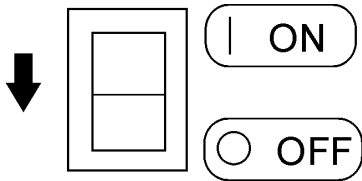
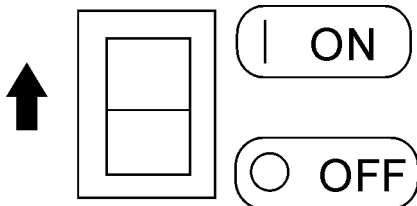

Figure 14. Idle Control Switch (Off)
Figure 15. Idle Control Switch (On)
- Place the *idle control switch*** (Figure 14) in the "OFF" (down) position. This will allow the engine speed to run at speed about 3600 RPM's
NOTE Placing the *idle control switch* in the **OFF** position (Figure 14) allows the engine to operate at a maximum speed of about 3600 RPM's. When the idle control switch is placed in the up position (**ON**) (Figure 15), the generators will run at idle speed (2200 RPM's) until a load is applied, at that time the engine speed will increase to 3600 RPM's as long as the load is being applied. When the load is not in use, the engine speed will drop back to the idle mode after about 3 seconds.